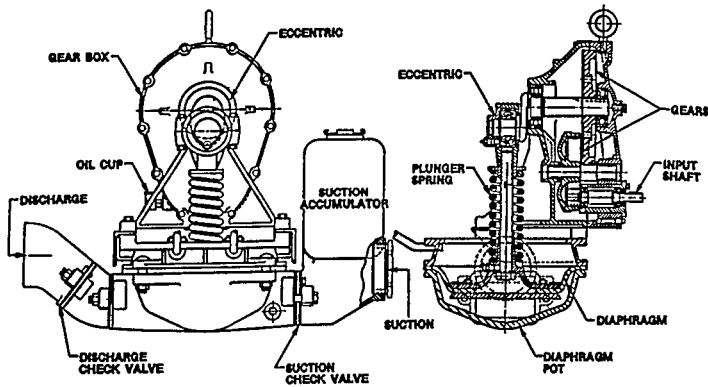

FIGURE 1 Cross-section of a mechanically driven single-diaphragm pump for the construction industry (Gorman-Rupp)
**Construction Industry** Mechanically driven diaphragm pumps are widely used in the construction industry for dewatering applications where pumps may ingest rocks or other debris. A popular make of this type of pump contains a spring on the plunger rod (see Figures 1 and 2). If the operating pressure exceeds the maximum recommended pumping pressure, the spring compresses and does not move the diaphragm. The spring can compress and thus keep a rock from being pushed through the wall of the pumping chamber or cause the drive mechanism to fail.